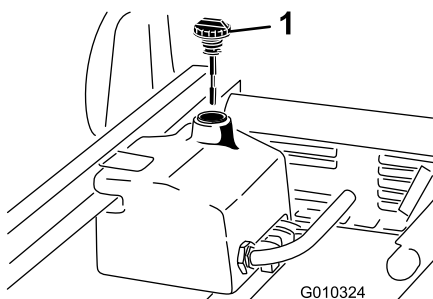

Figure 15
1. Clean the area around the filler neck and the cap of the hydraulic tank (Figure 15). Remove the cap from the filler neck.
2. Remove the dipstick (Figure 15) from the filler neck and wipe it with a clean rag. Insert the dipstick into the filler neck; then remove it and check the fluid level. The fluid level should be between the two marks on the dipstick.